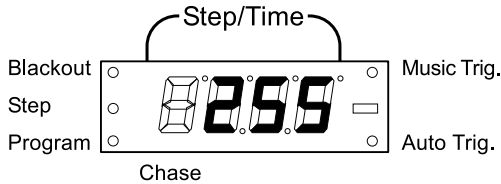

Fig.5 - Display example DMX value "255"
4. Compose a look by moving the **[FADERS]**. (Changes in fixture attribute such as colors and gobos) Press **[PAGE SELECT]** to access Channels 9~16 on the faders (fig.5).